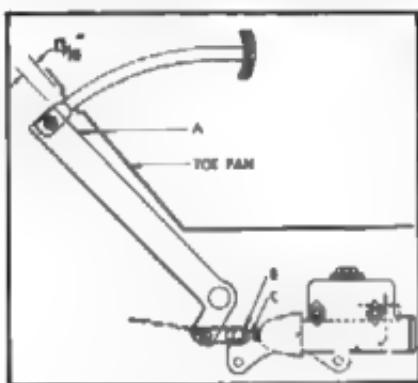

Fig. 58—Brake Pedal Clearance Adjustment
1. Brake Pedal "A" (fig. 58) should be adjusted to give $1\frac{1}{16}$ " clearance between top of pedal arm and underside of brake pedal toe pan depression.